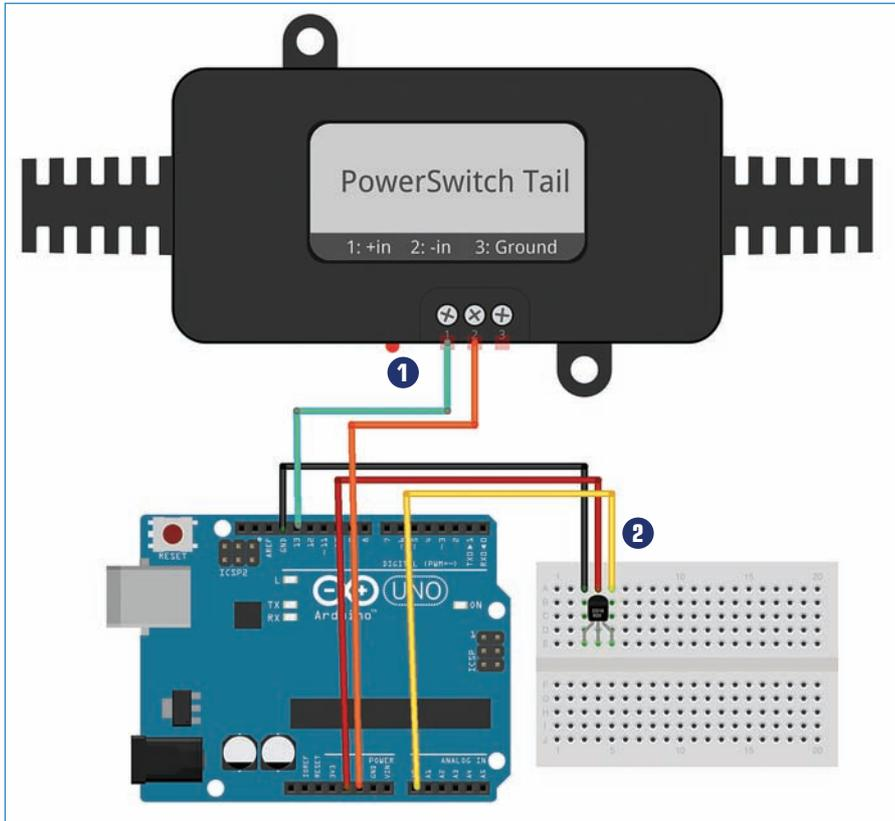

FIGURE 12.8 The fan controller is a quick and easy build.
This is a quick-and-dirty build, with only five wires and a single electronic component, shown in Figure 12.8.
- 1** Connect the first and second terminals of the PowerSwitch Tail to pin 13 and a GND on the Arduino. In Figure 12.8, these are shown as being green and orange wires, respectively.